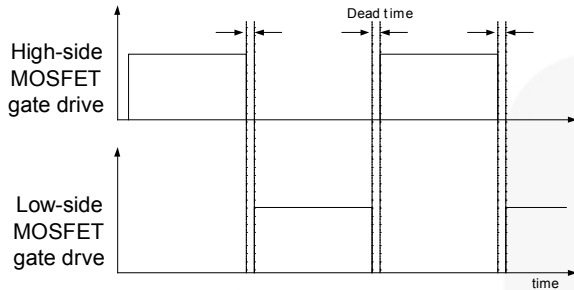

Figure 16. MOSFETs Gate Drive Signal
1. Basic Operation: FAN7621B is designed to drive high-side and low-side MOSFETs complementarily with 50% duty cycle. A fixed dead time of 350ns is introduced between consecutive transitions, as shown in Figure 16.